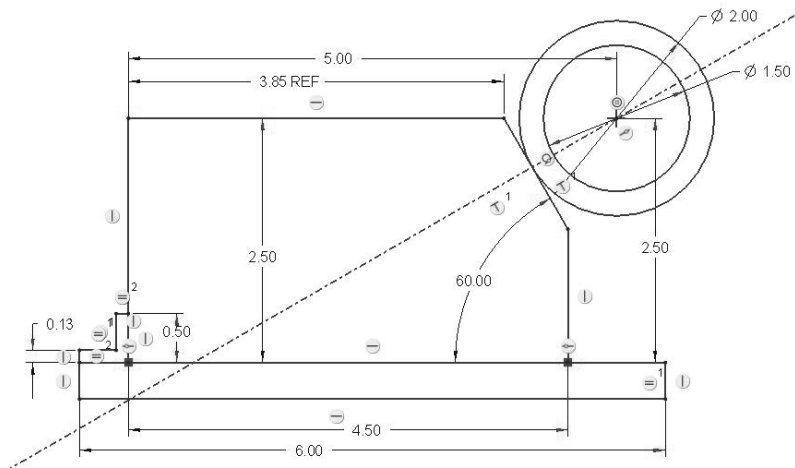

Figure 3-65 Line of Action for Pipe Force
Step 30:  Select the **centerline** tool. Using the LMB *pick* the center of the pipe, then the point where the line touches the jig's slanted surface. The normal force produced by the pipe pushing on the slanted surface will lie along this line. If this line crosses the left edge of the jig above the fixed tab, then the jig will not stay in place by itself. In this case, this line crosses below the fixed tab, thus this jig will stay in place when released. See Figure 3-65.